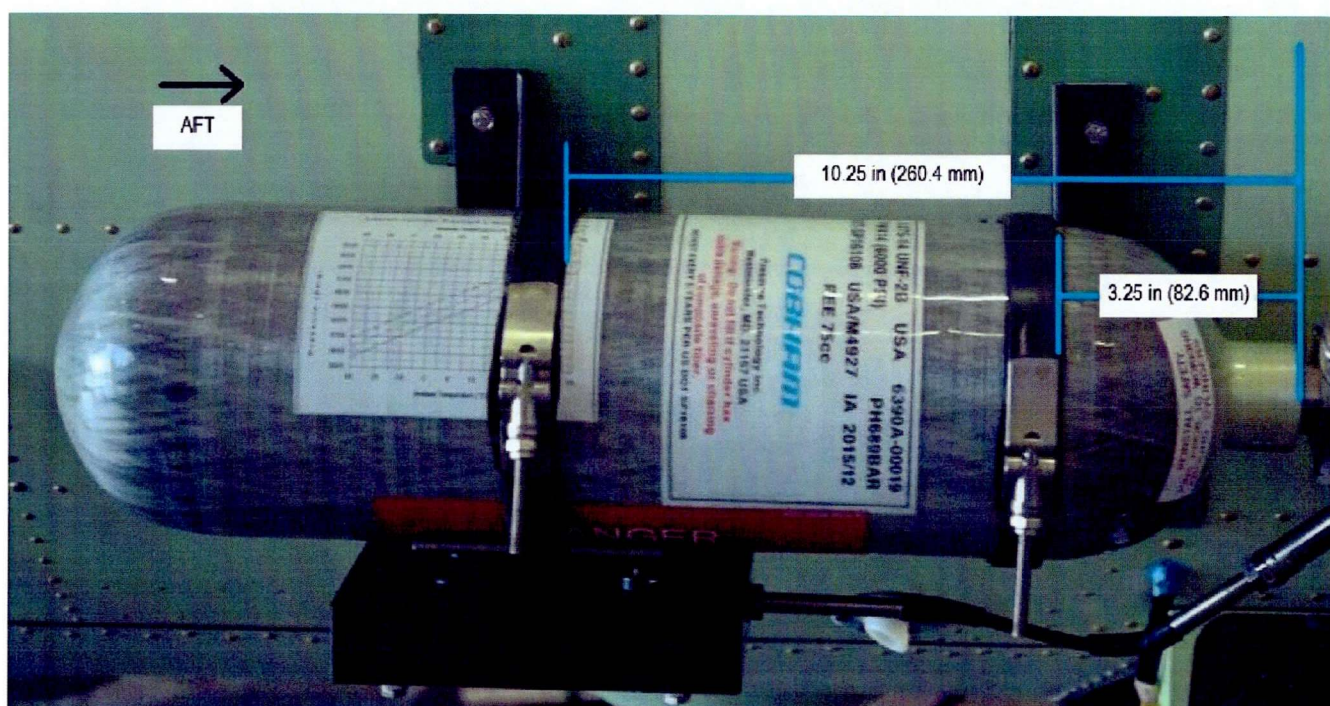

FIGURE 5: LIFERAFT RESERVOIR ALIGNMENT (APPROX. DIM.), LH HC VIEW
2. Reference Figure 5 for correct alignment of the Liferaft Reservoir. It is acceptable to shift the bottle aft by 1.0" (25.4 mm) while ensuring that the valve assembly clears the existing drain. If the bottle is shifted, the installer must confirm that the cable installation conforms to the NOTE on the bottom of page 57 of II145-6 Rev. A as well as the pull force requirements per Section 10.2 of II145-6 Rev. A.